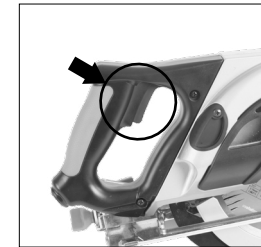

Fig. 8
- Depress the main trigger switch to start the motor. (Fig. 8)